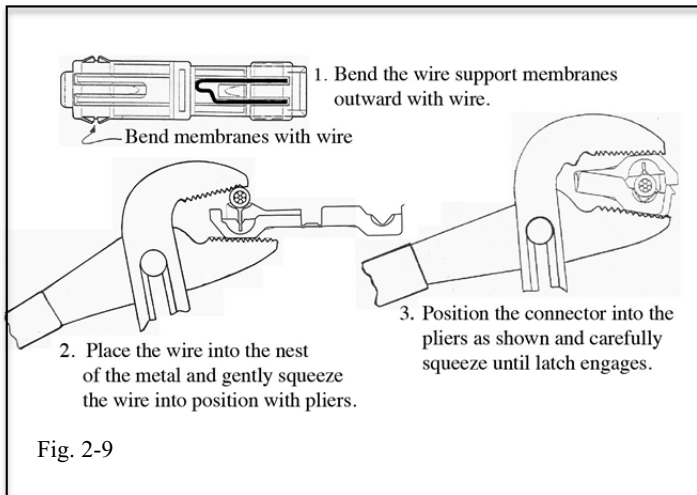

Fig. 2-9
- k) Review instructions on how to properly use wire taps, as shown. (Fig. 2-9)